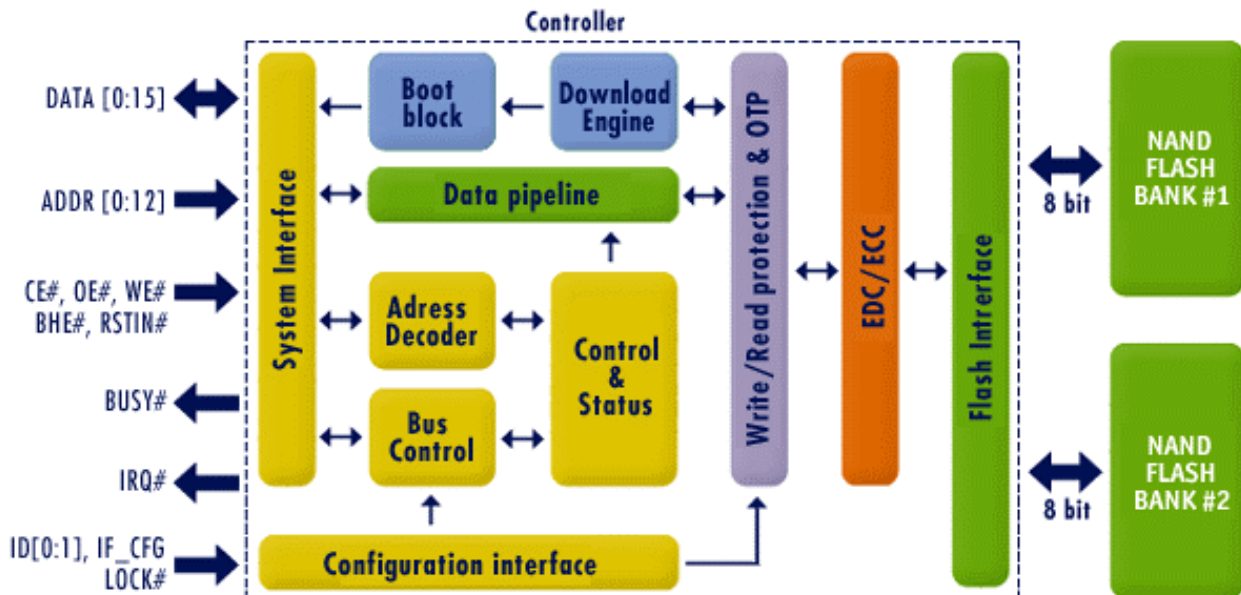
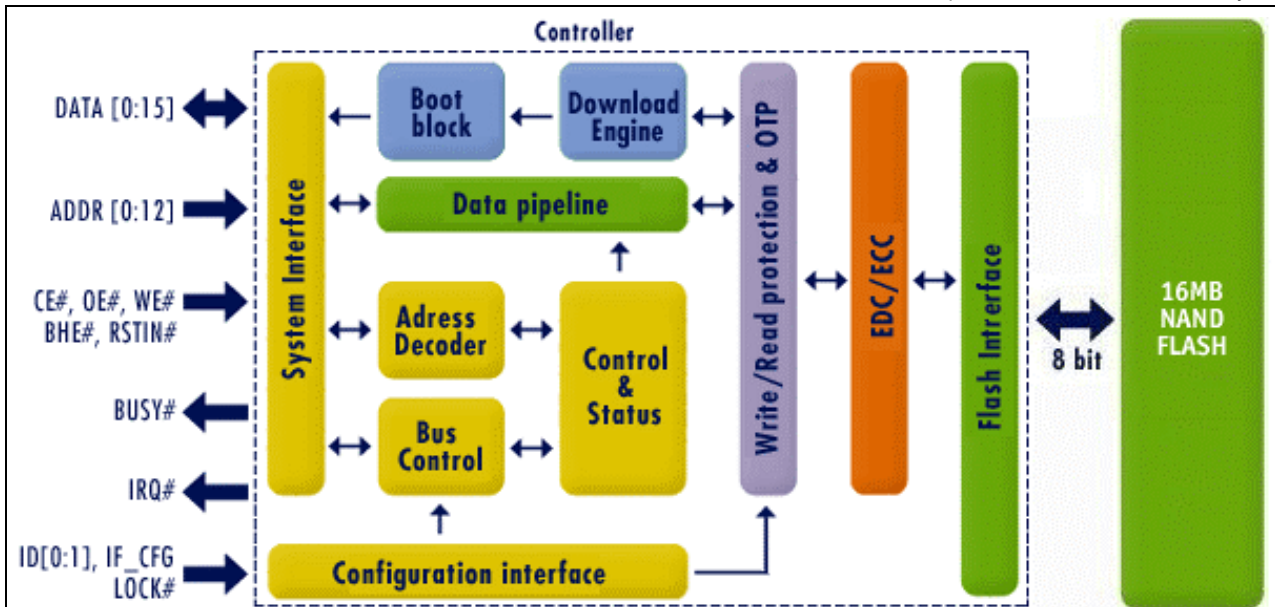

Figure 7: Standard Interface Simplified Block Diagram, 32/64MB Devices
Figure 8: Standard Interface Simplified Block Diagram, 16MB Devices
DiskOnChip Millennium Plus consists of the following major functional blocks, as shown in Figure 7 and Figure 8.
- **Programmable Boot Block** with XIP capability enhanced with a **Download Engine (DE)** for system initialization capability
- **Flash Interface** whose architecture depends on the capacity: 32MB (256Mb) and 64MB2 (512Mb) implements a unique interleaved, dual bank architecture of two embedded 16MB NAND flash arrays (Figure 7); 16MB uses a single NAND flash array (Figure 8).